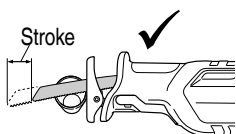
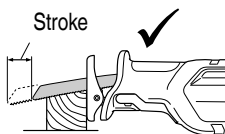

Fig. 15
Fig. 17
- Select a saw blade of the most appropriate length. Ideally, the length protruding from the base of the saw blade after subtracting the stroke should be larger than the material (see Fig. 15 and Fig. 17).